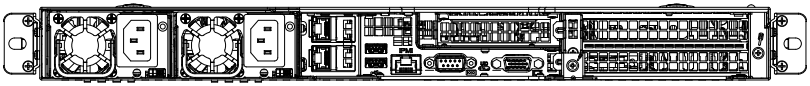

Figure 6-10. Removing the Power Supply
1. Position the air shroud in the chassis as illustrated in Figure 6-10.